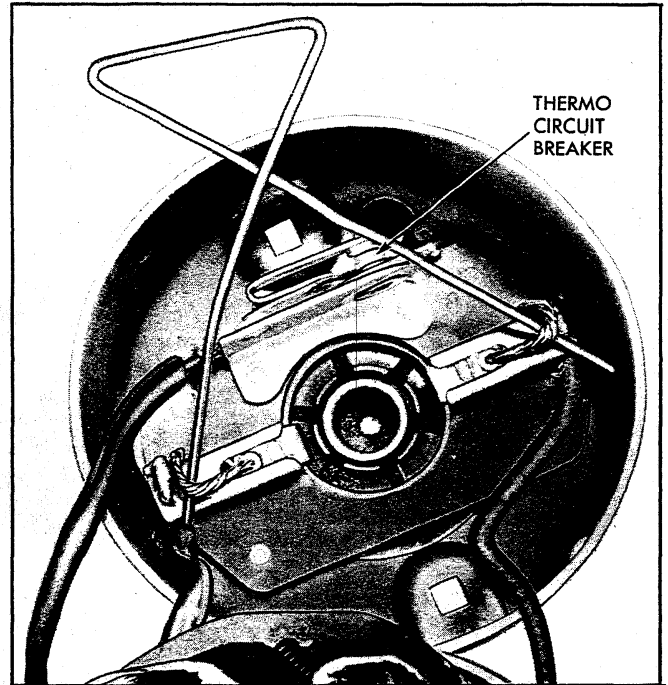

Fig. 95 - Retaining Armature Brushes
5. To separate armature from case while still retaining the brush springs and brushes in place fashion a spring similar to that shown in Figure 95 and insert behind the brush leads as shown.
Check contacts of circuit breaker shown at top of Figure 95. Clean as required or file lightly to remove irregularities.
brush tightly, and remove instrument retaining spring. Hold brush installed with improvised separator as shown in Figure 95.